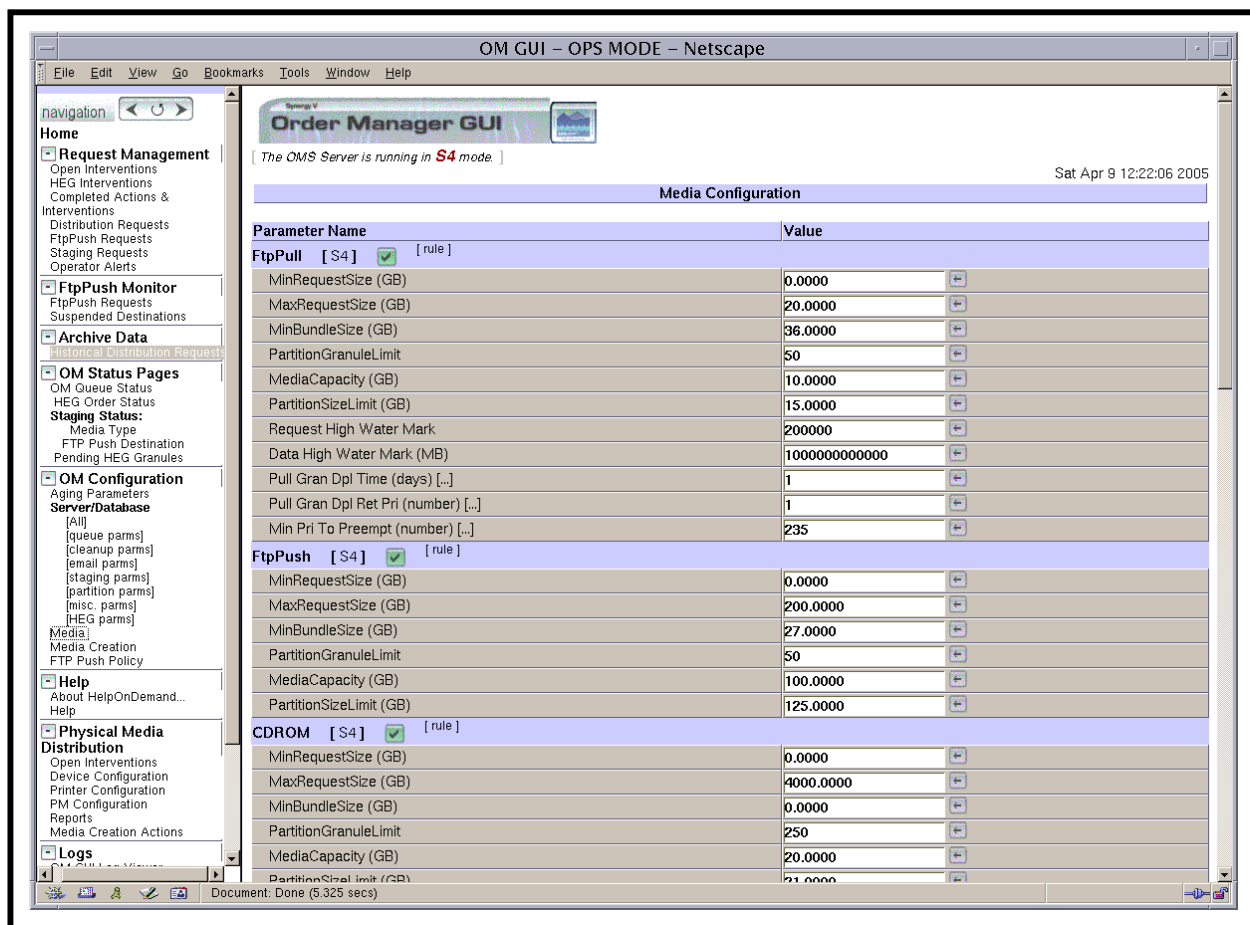

Figure 62. Media Configuration Page
The **Media Configuration** page (Figure 62) provides the full-capability operator with a means of checking and modifying media parameter values.
- 2 If the **Media Configuration** page (Figure 62) is not already being displayed, click on the **Media** link in the navigation frame of the **OM GUI**.
- The **Media Configuration** page (Figure 62) is displayed.